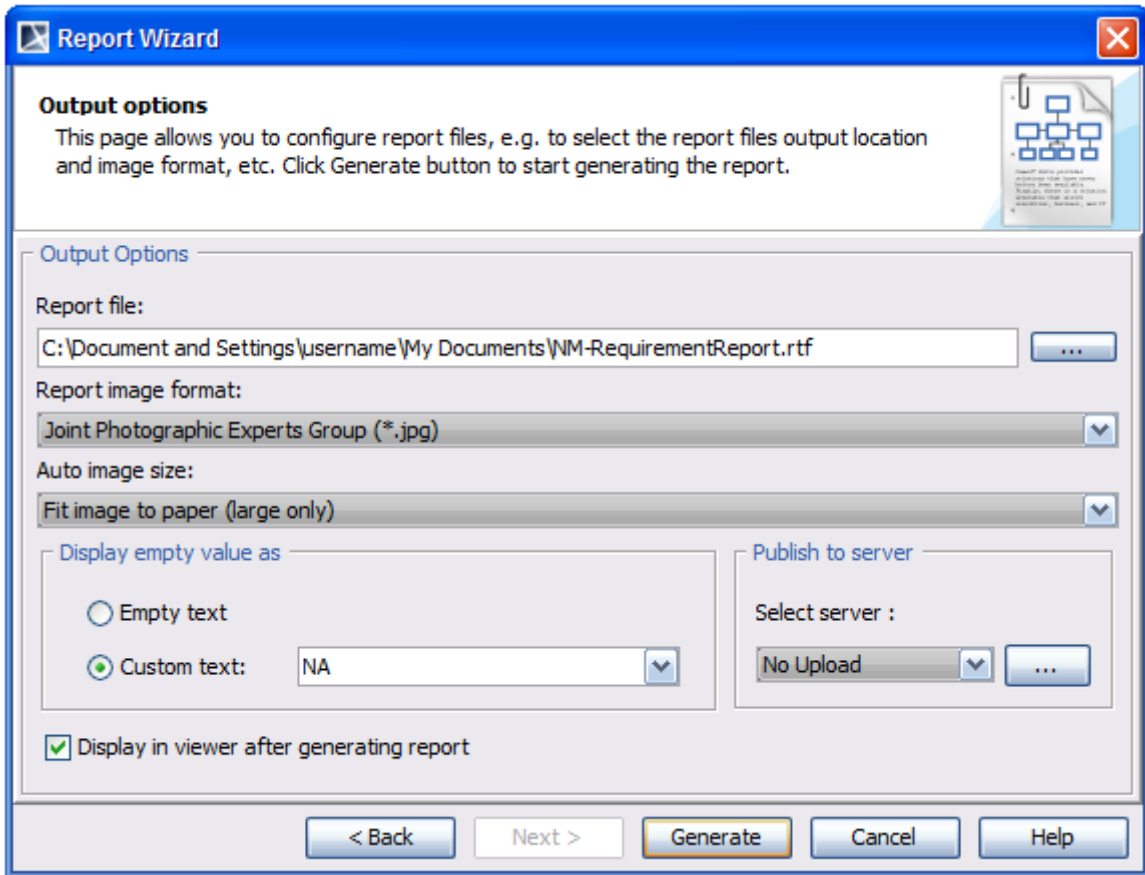

Figure 273 -- Report Wizard Dialog - Output Options
5. After the scope of the report is defined, click **Next** to proceed to the **Output Options** pane (Figure 273).
6. Specify the report file name, report file format, and image file format (Figure 273). It is recommended to use RTF as the report file format.
7. Click **Generate** to create the report (Figure 273). Your report will then be generated. Once generated, it will automatically open in the default document editor.